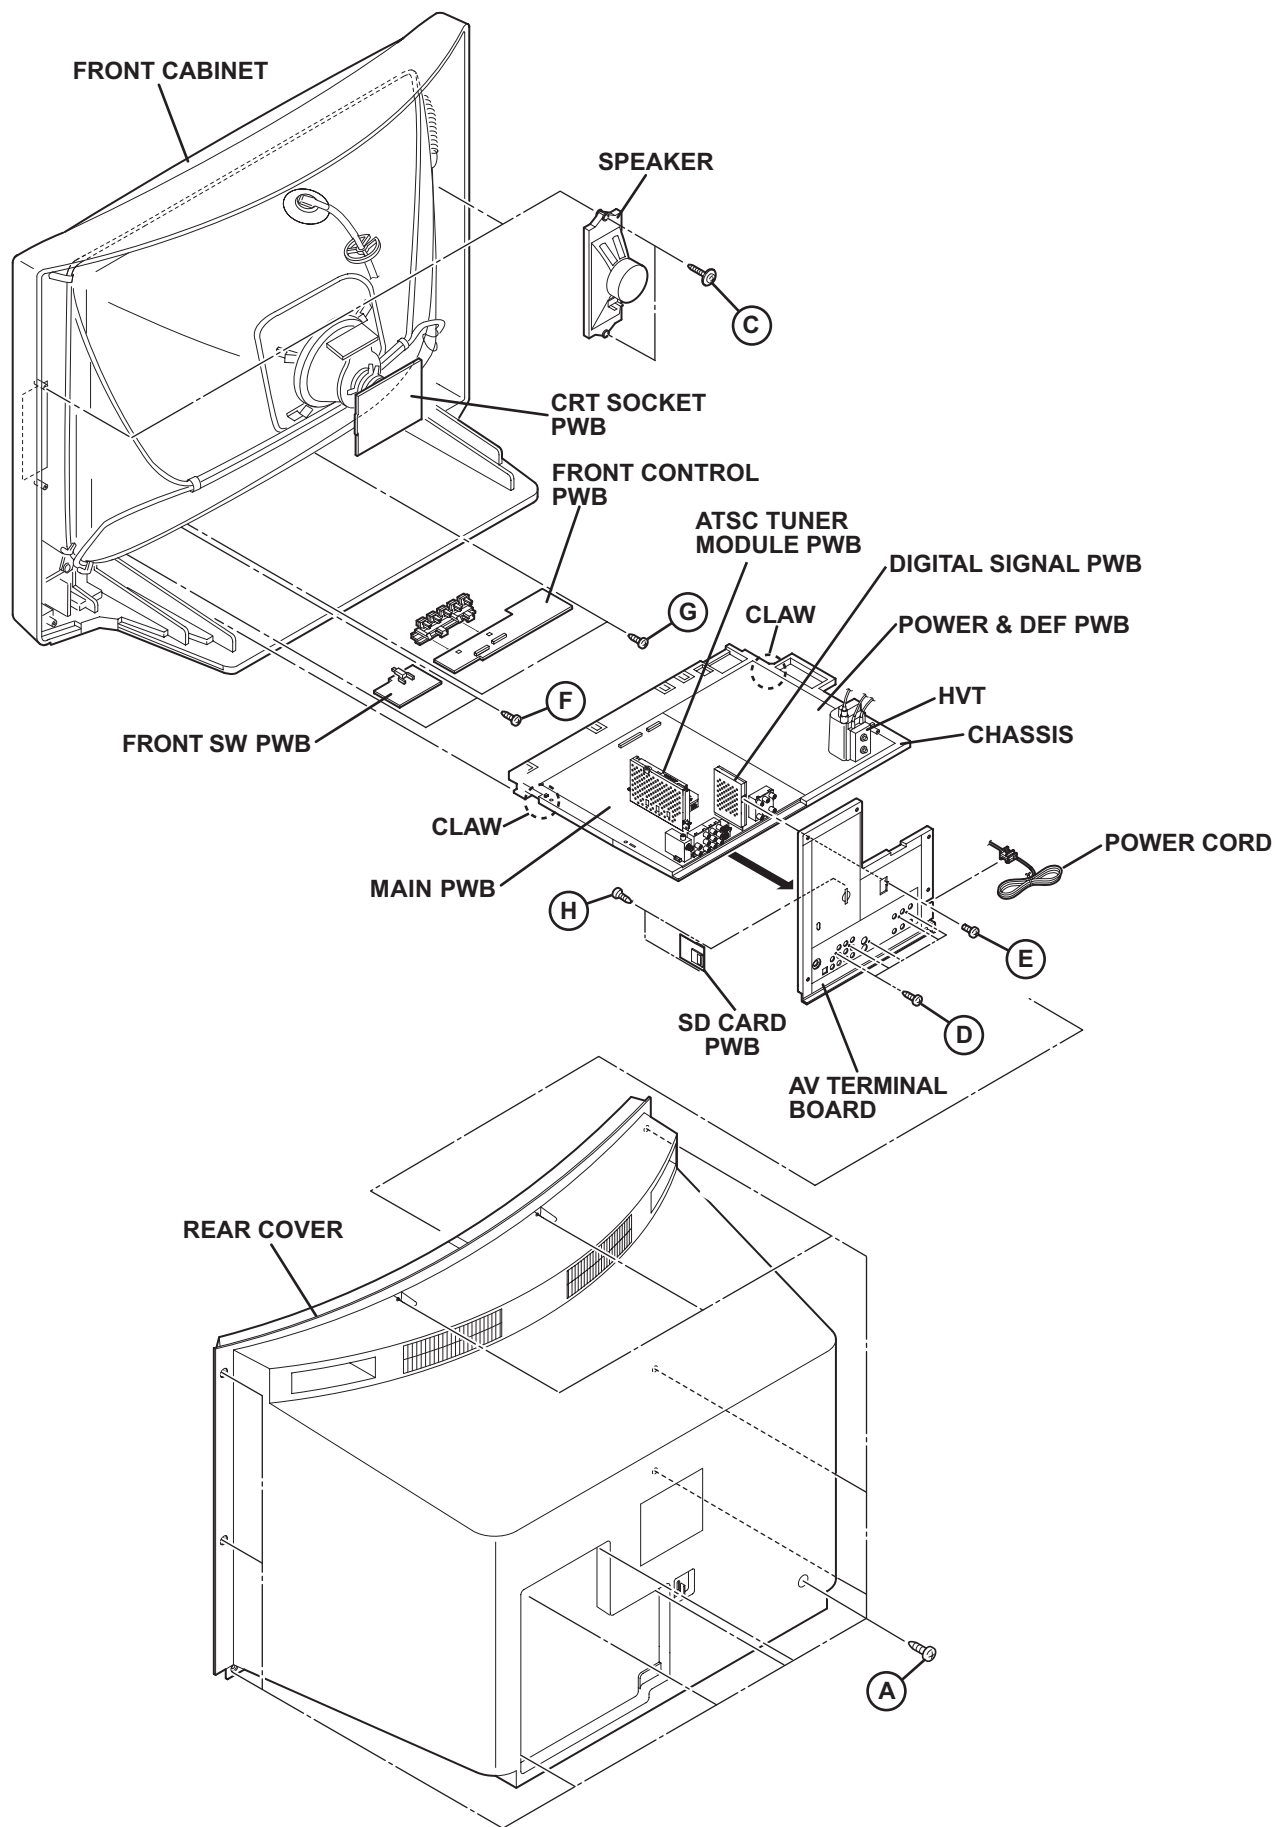

Fig.2
3.2.1 REMOVING THE REAR COVER (Fig.2)
3.2.2 REMOVING THE SPEAKER (Fig.2)
3.2.3 REMOVING THE AV TERMINAL BOARD (Fig.2)
- (1) Remove the 5 screws [D] and 1 screw [E].
- (2) Withdraw the AV TERMINAL BOARD toward you.
3.2.4 REMOVING THE CHASSIS (Fig.2)
3.2.5 REMOVING THE FRONT SW PWB (Fig.2)
- (1) Remove the 2 screws [F].
- (2) Remove the FRONT SW PWB.
3.2.6 REMOVING THE FRONT CONTROL PWB (Fig.2)
- (1) Remove the 2 screws [G].
- (2) Remove the FRONT CONTROL PWB.
3.2.7 REMOVING THE SD CARD PWB (Fig.2)
- (1) Remove the 2 screws [H].
- (2) Remove the SD CARD PWB.
3.2.8 CHECKING THE PW BOARD (Fig.2)
3.2.9 WIRE CLAMPING AND CABLE TYING (Fig.2)